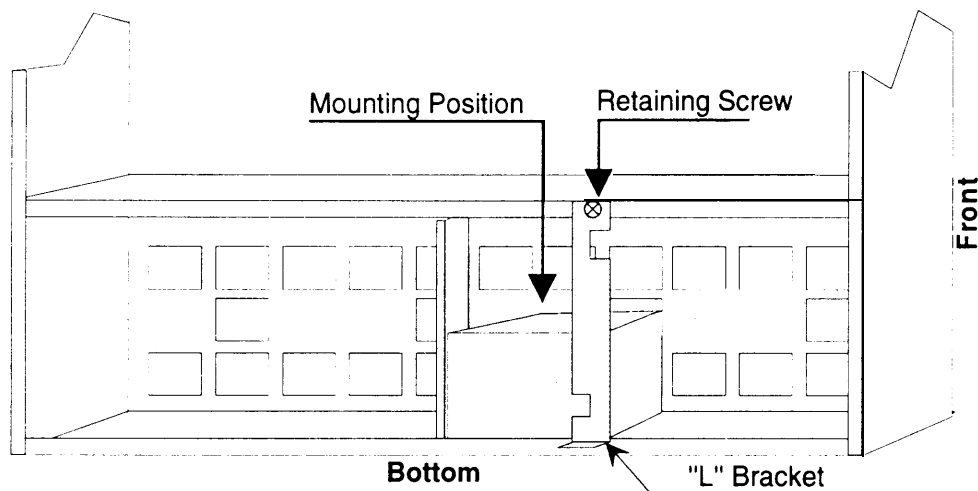
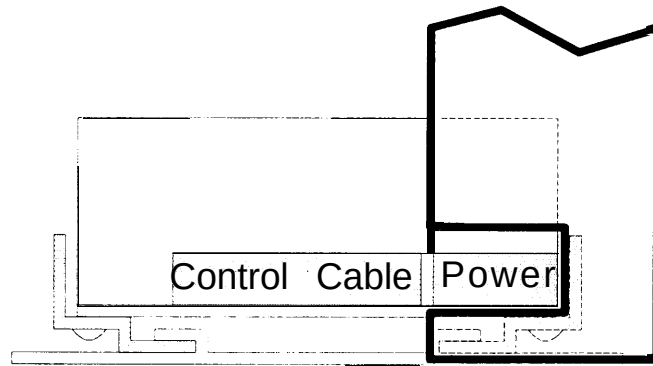

Figure 3-15. Location of Hard Disk Drive
Figure 3-17. Attaching Hard Disk Drive “L” Bracket
6. The hard disk drive is mounted in one of the bays at the bottom of the system unit as shown in Figure 3-15.
11. Slide the new hard disk drive into the same bay as shown in Figure 3-15. It may be necessary to lift the hard disk drive slightly as you slide it in because there is tight clearance on the screw heads holding the mounting rails.
12. Attach the "L" bracket carefully, **exactly** as shown in Figure 3-15 and Figure 3-17.